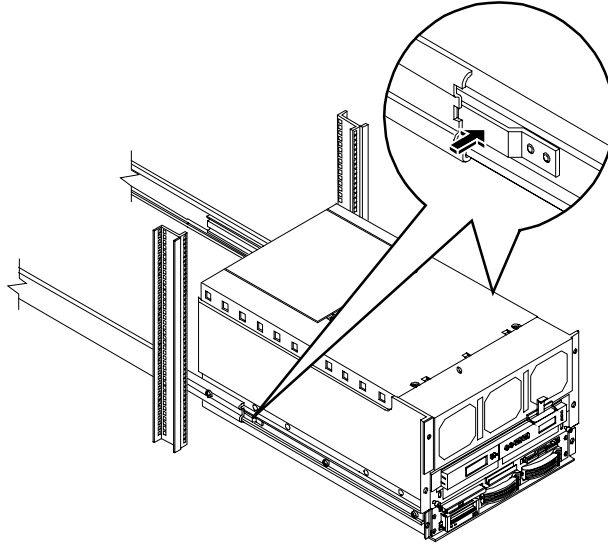

Figure 4-5. Location of Lockout Releases
5. On both slide members, simultaneously depress the lockout releases shown in Figure 4-5. Then push the HP NetServer completely into the rack enclosure.